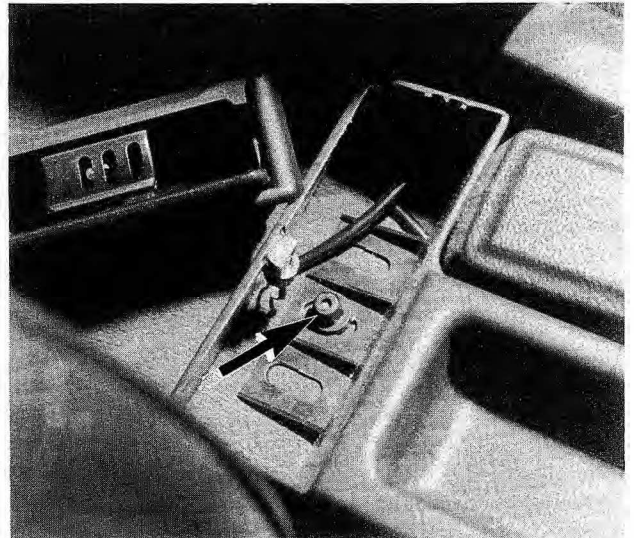

Fig. 4-5. Screw under ashtray (arrow) that secures parking brake handle trim. Remove screw and pull trim back slightly to release at front.
3. Remove the parking brake handle trim by lifting out the ashtray and removing the screw shown in Fig. 4-5. Pull the trim back slightly to disengage the tab at the front and lift it off the brake handle.